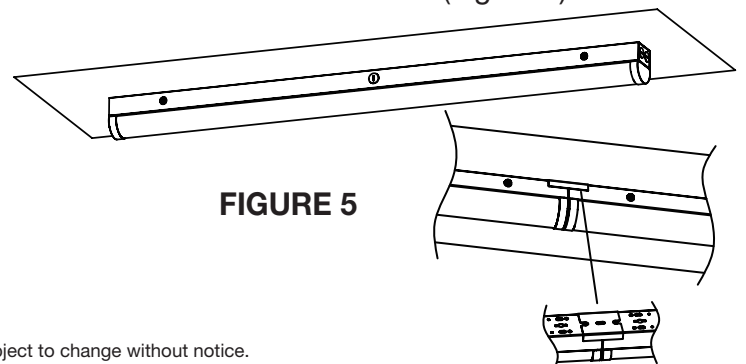

FIGURE 5
5. Connect the wires according to safety requirements and then install the luminaire body back to the chassis. By using an extra mounting bracket, lights can be connected in series. (Figure 5)